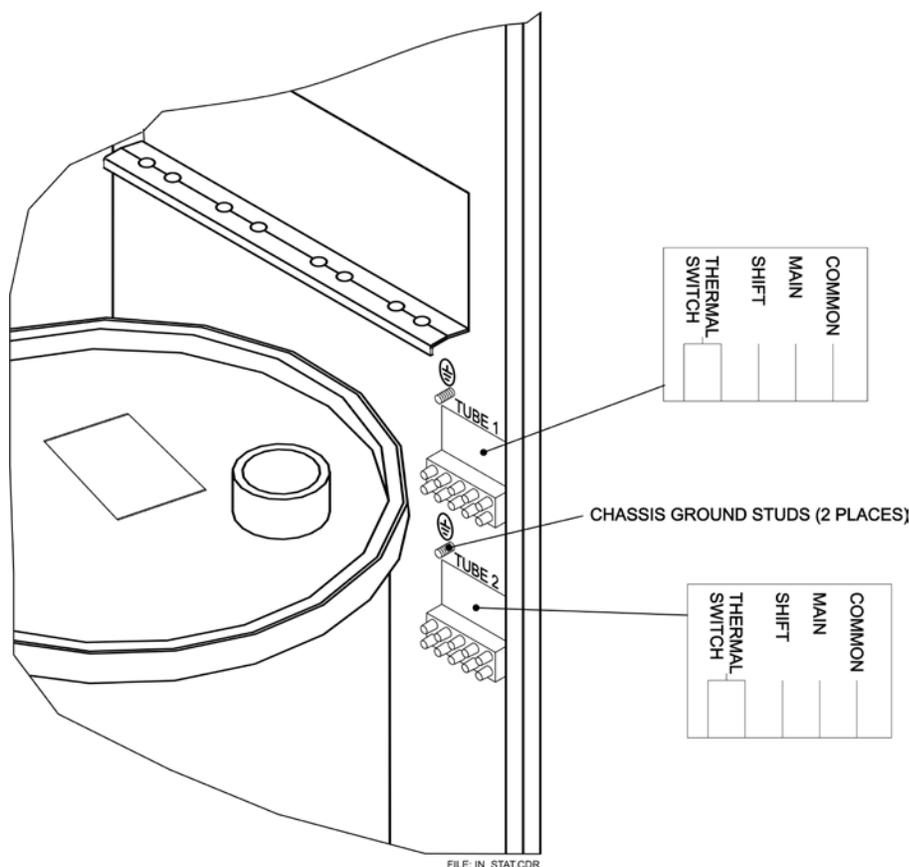

Figure 2-8: Stator connections to generator
Refer to figure 2-8 for the X-ray tube stator and thermal switch connections.
THE SHIELD FOR THE STATOR CABLE(S) MUST BE PROPERLY GROUNDED AT BOTH THE TUBE END AND THE GENERATOR END OF THE CABLE(S). SEE FIGURE 2-8 FOR GROUNDING AT THE GENERATOR END.
ONE TUBE ONLY GENERATORS WILL HAVE 1 STATOR TERMINAL BLOCK FITTED. THE LOWER TERMINAL BLOCK IN FIGURE 2-8 IS ONLY FITTED ON TWO TUBE GENERATORS.